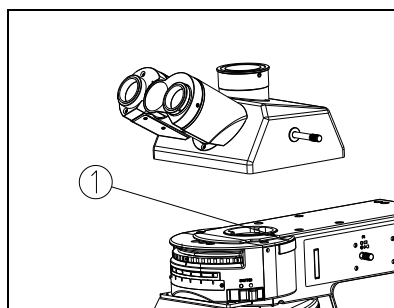

Fig.35
(1) Loose the lock-screw① completely on fluorescence illuminator. (See Fig. 35)
(2) From a little right position, insert the dovetail interface on the bottom of head into the hole of middle head with a little left inclined. Keep the two eyepiece tubes forward, and then screw down the lock screw①.